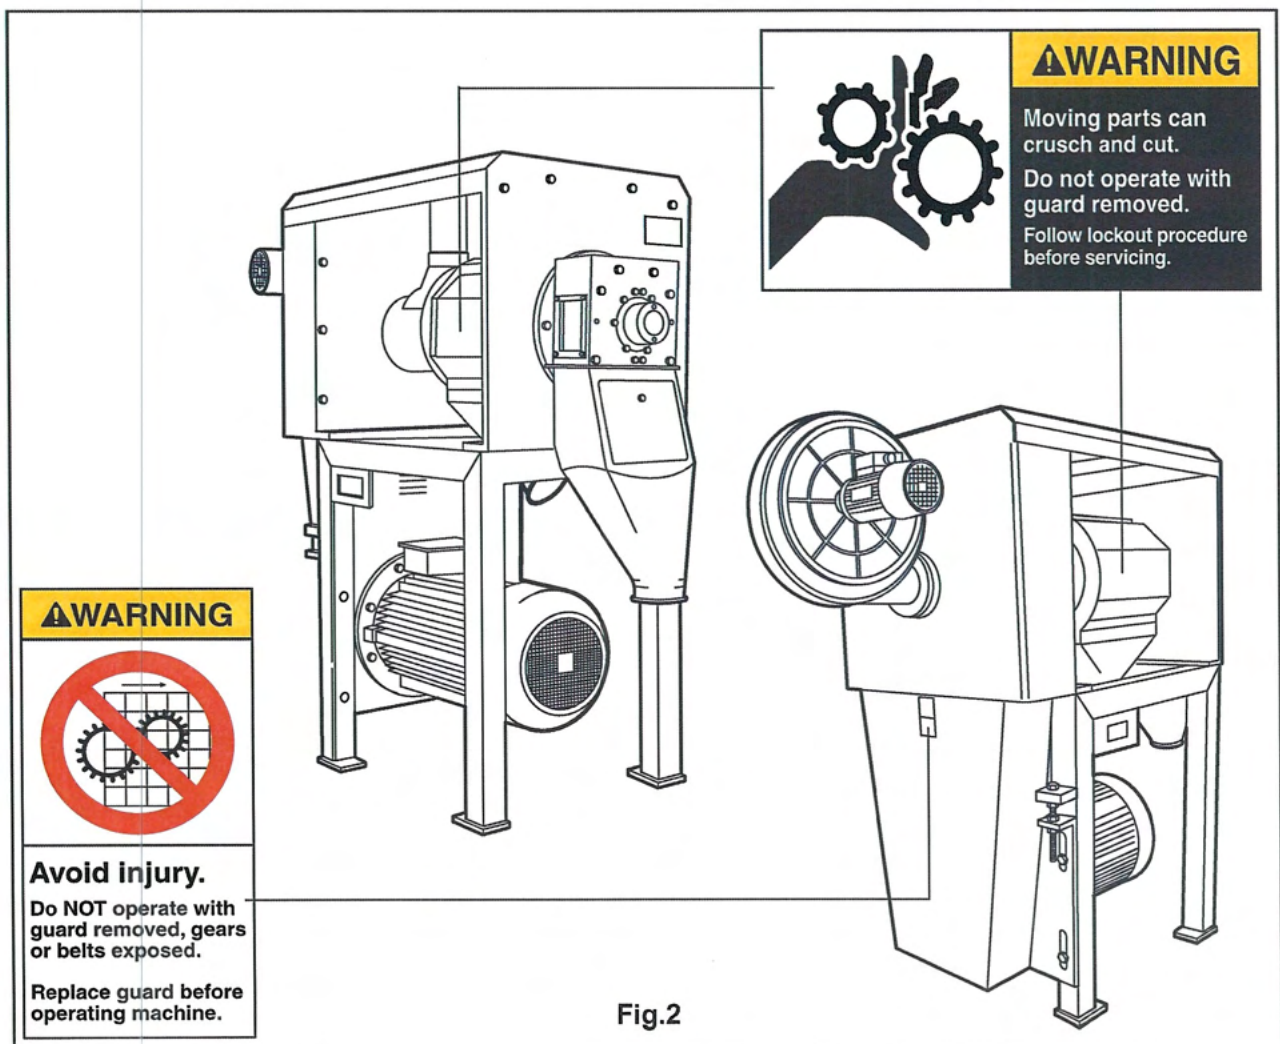

Fig.2
3.2 SEGNALI DI SICUREZZA (Vedi fig.2)
SAFETY SYMBOLS (See fig.2)